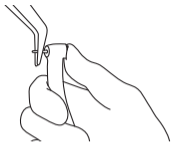

Figure 5.
- 2 Remove the bur (Figure 5.).